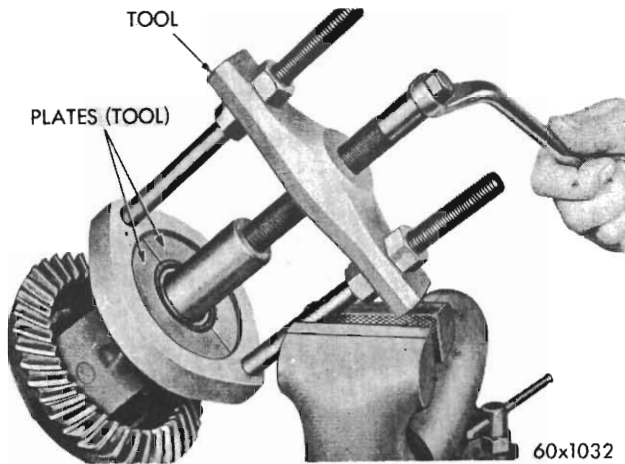

Fig. 21 - Removing differential carrier bearing using Tool E1673.
(18) Drive differential pinion shaft lock pin out of case from ring gear end of case.
(19) Remove differential pinion shaft with a brass drift.
(20) Remove bolts from carrier halves and separate to remove pinion gears and washers.
(21) Remove axle side gears and washers.
(22) Remove differential bearings with puller Tool E1673 bearing remover (see Fig. 21).